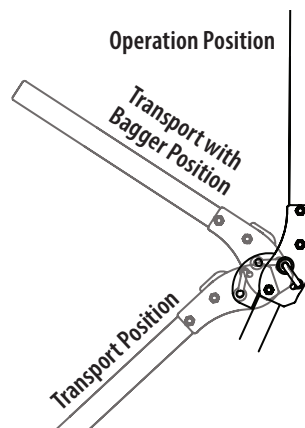

Figure 23
Refer to Figure 23 and the following descriptions and uses for the three (3) positions for the ROPS.
2. Move the ROPS into the desired position. The three positions are TRANSPORT position, TRANSPORT WITH BAGGER position and OPERATION position (Figure 23).